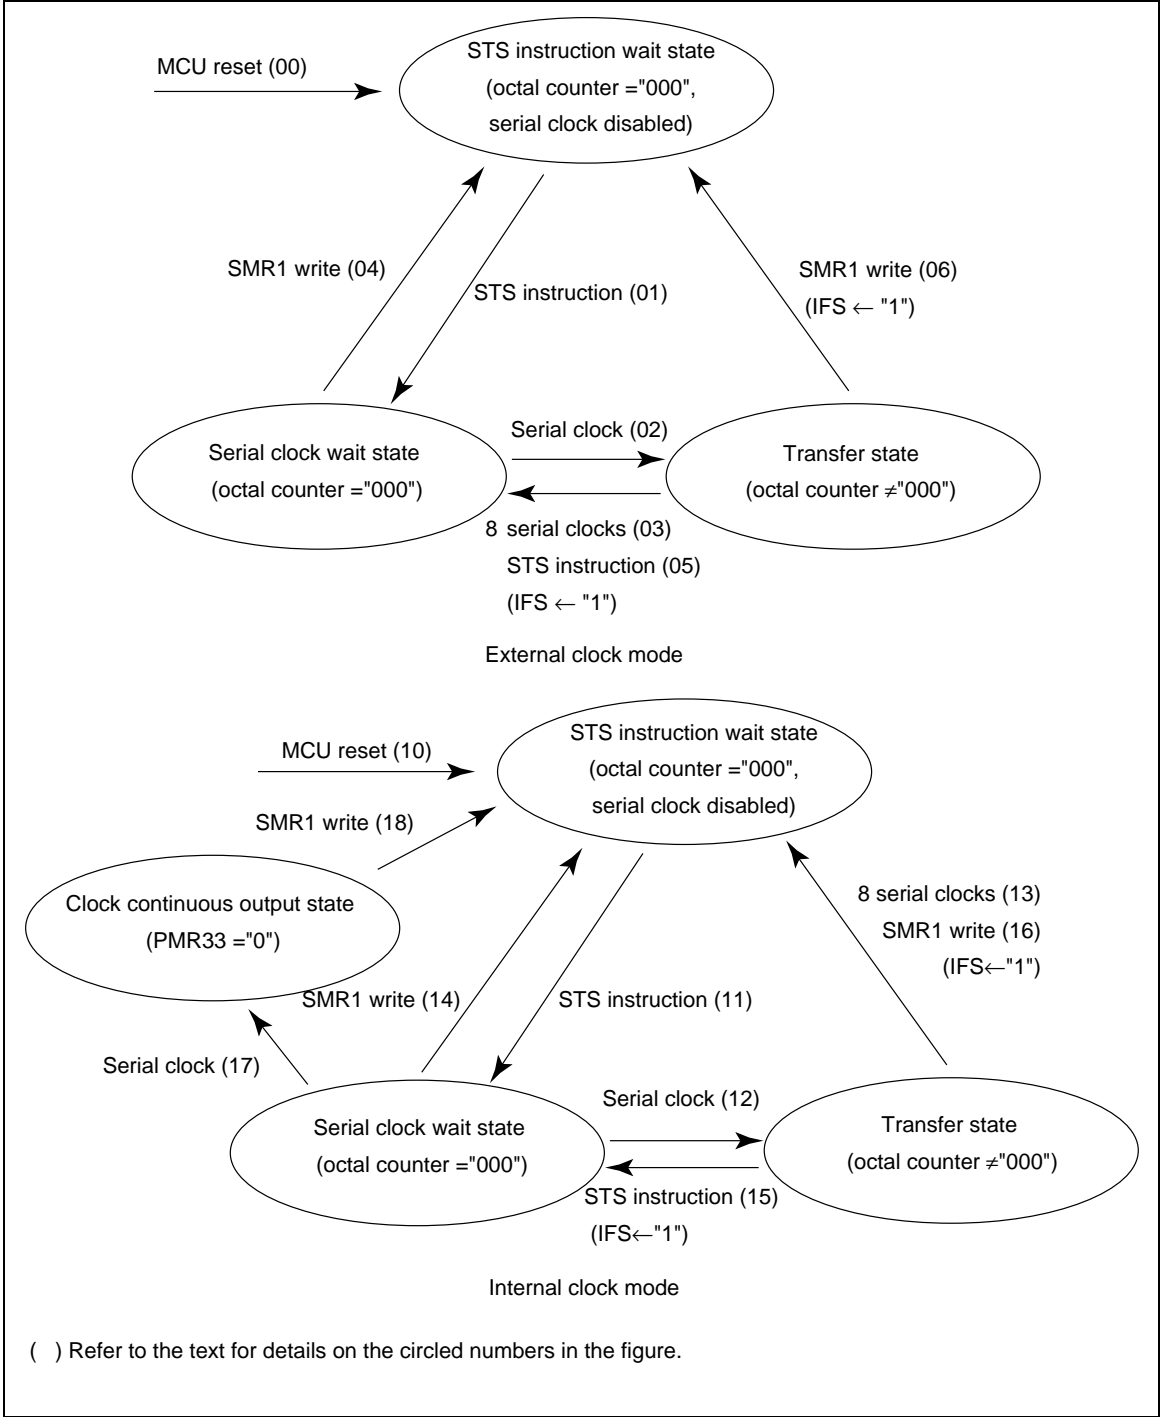

Figure 63 Serial Interface Operating States
The serial interface has the operating states shown in figure 63 in external clock mode and internal clock mode.
Upon MCU reset ((00) and (10) in figure 63), the serial interface enters the STS instruction wait state. In the STS instruction wait state, the internal state of the serial interface is initialized. Even if the serial clock is input at this time, the serial interface will not operate. When the STS instruction is executed ((01), (11)), the serial interface enters the serial clock wait state.